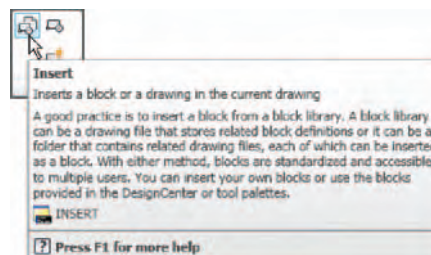
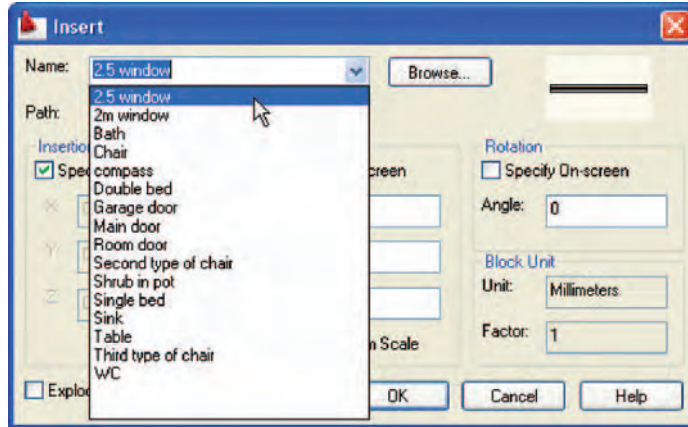

Fig. 9.6 The **Insert** tool icon in the **Home/Block** panel
Fig. 9.7 The **Insert** dialog with its **Name** popup list displaying the names of all blocks in the drawing
1. *Left-click* the **Insert** tool icon in the **Home/Block** panel (Fig. 9.6) or the **Insert Block** tool in the **Draw** toolbar. The **Insert** dialog appears on screen (Fig. 9.7). From the **Name** pop-up list select the name of the block which is to be inserted, in this example the **2.5 window**